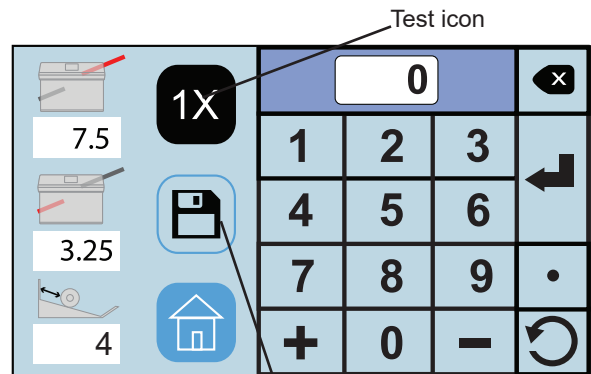

Fig. 26
Press the enter key  to enter the position. The white box under the icon will show the position entered. (Fig. 26).
4. With paper loaded in the feeder press the test icon  (Fig. 26) to check that the fold settings are correct. To adjust the settings repeat steps 1 - 3.